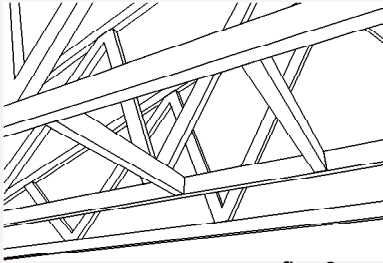

fig. 3
1. The Quad 24 Stair is specifically designed to fit lengthways between trusses fitted at 900mm centres (figure 3). It is only suitable where the height of the ceiling is no more than 2440mm.